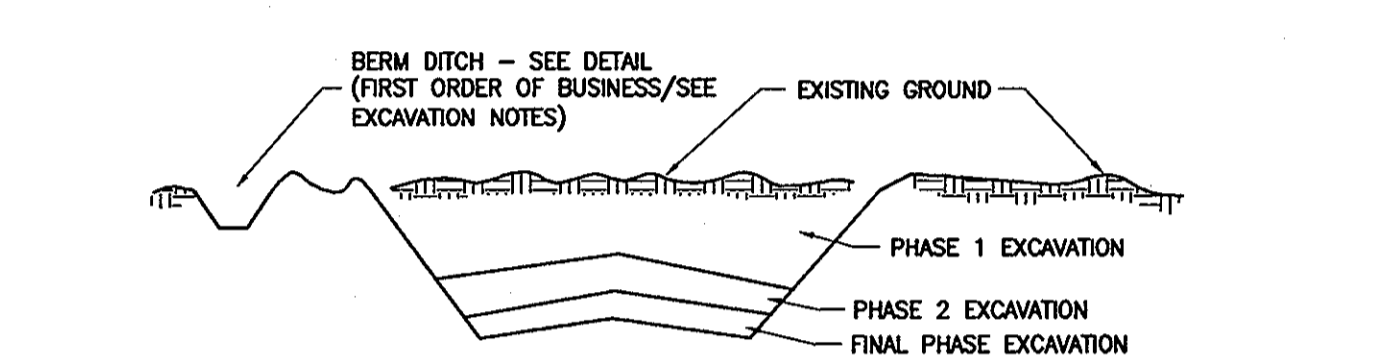

Figure 4 Incremental Stabilization - Cut
- i. A mulch anchoring tool is a tractor drawn implement designed to punch and anchor mulch into soil surface a minimum of two (2) inches. This practice is most effective on large areas, but is limited to flatter slopes where equipment can operate safely. If used on sloping land, this practice should be used on the contour if possible.
- ii. Construction sequence (refer to Figure 4 below):
- a. Excavate and stabilize all temporary swales, side ditches, or berms that will be used to divert runoff around the fill. Construct Slope Silt Fence on low side of fill as shown in Figure 4, unless other methods shown on the plans address this area.